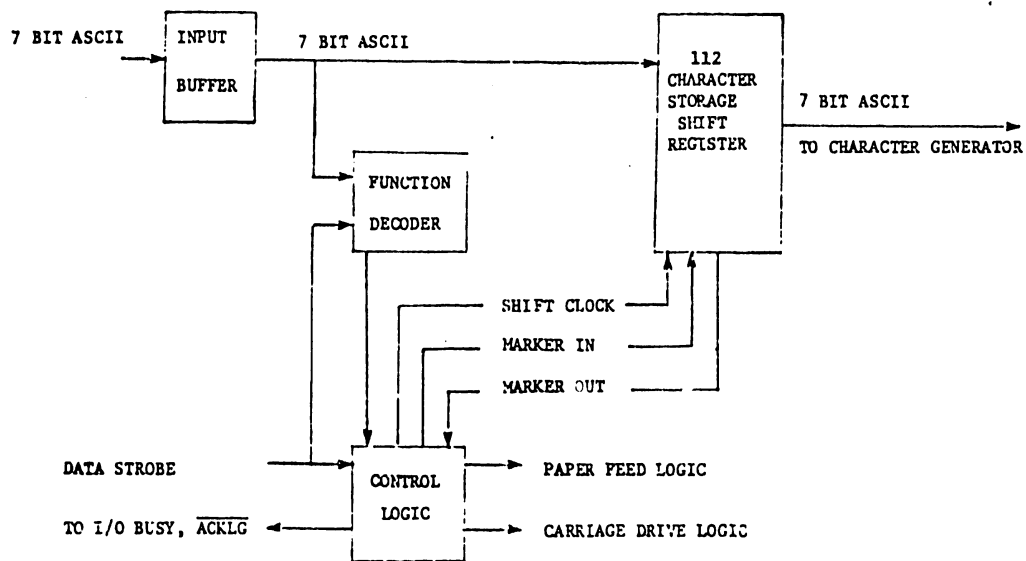

FIGURE 4-5
4.3.6 I/O Control and Character Storage (Figure 4-5)